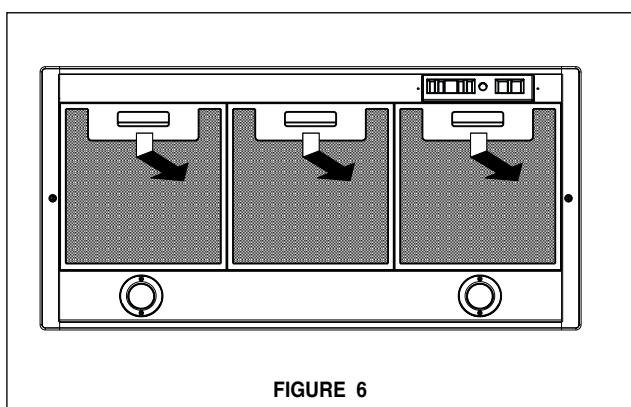

FIGURE 6
2. Remove the grease filters from the rangehood and set aside. The grease filters are removed by pressing the handle of the filter as indicated in **FIGURE 6**. When replacing, make sure that the filters are properly positioned with the handles in front and visible.